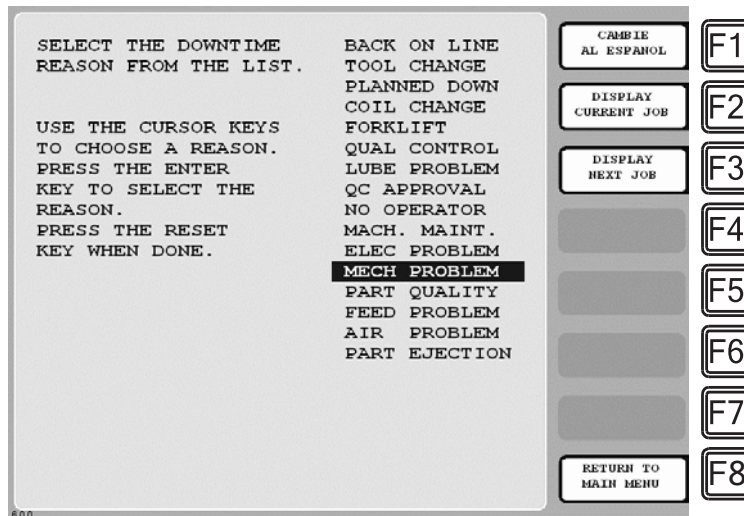

Figure 5 - Dialog Menu
1. Press RESET to clear the message. The Dialog Menu (see Figure 5) displays.